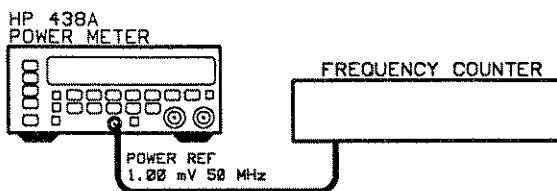

Figure 5-5. Power Reference Oscillator Frequency Adjustment Setup
1. Connect the equipment as shown in Figure 5-5 and set up the counter to measure frequency.
2. Round the DVM reading to two decimal places. Record this value as the internal bridge resistance (R) of the test power meter (approximately 200 ohms).
3. Connect the test power meter to the power meter as shown in Figure 5-5.